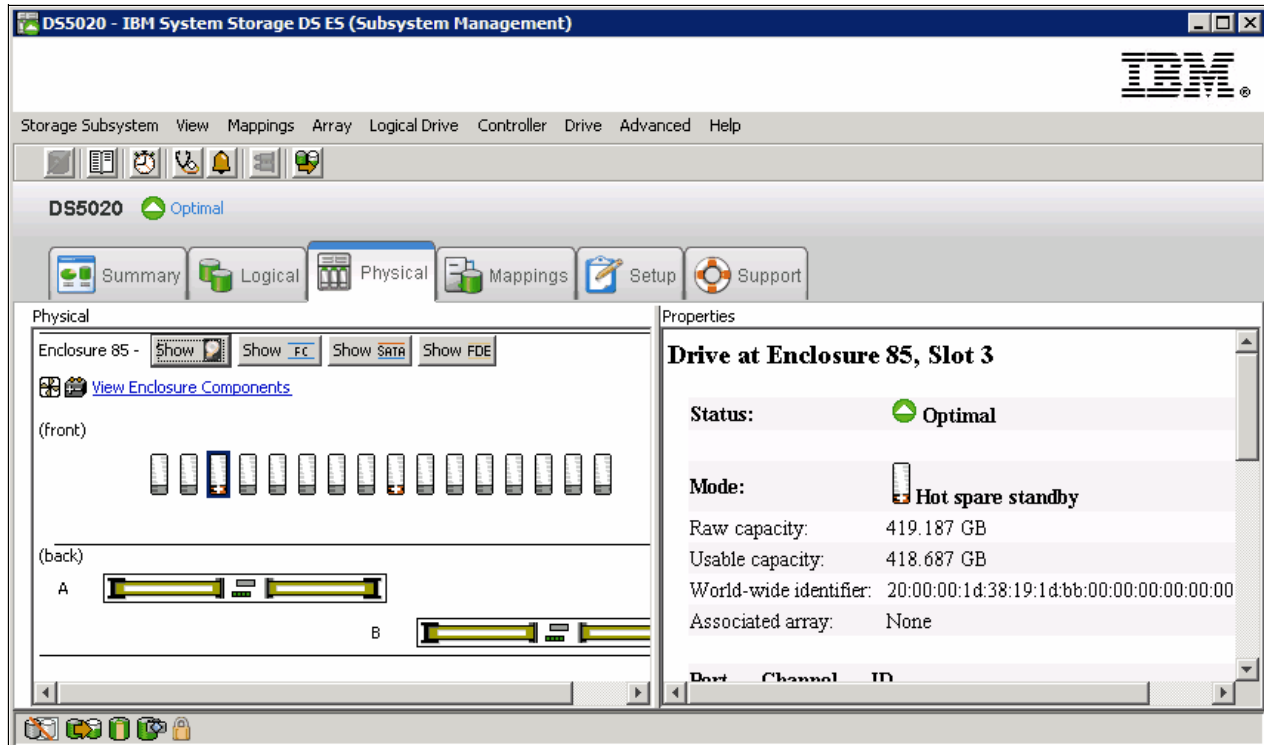

Figure 3-50 Automatic hot spare creation
2. Select the **Physical** tab to view the results of the automatic hot spare creation. You see the drives assigned in Figure 3-50.